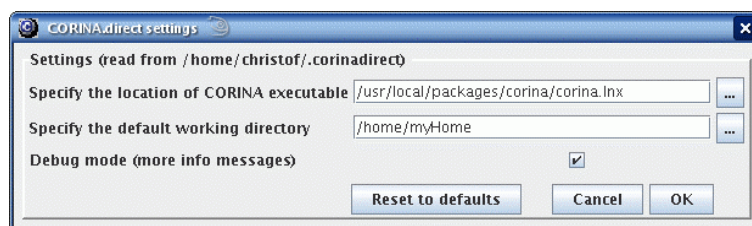

Figure 4 **Settings** dialog box of **CORINA.direct** on Linux systems.
- 4) Type the command *java -jar CORINA.direct.jar* at the prompt of a command shell. The **Settings** dialog box of **CORINA.direct** appears on your screen (see Figure 4).